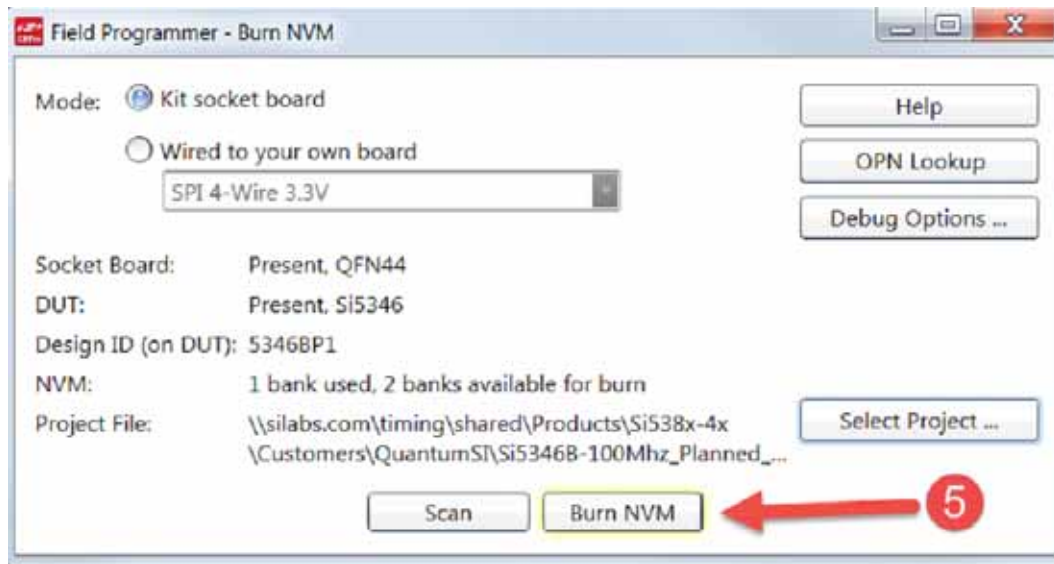

Figure 12. Click on Burn NVM
e. Step 5: After selecting the project file, select “**Burn NVM**” as shown in Figure 12.